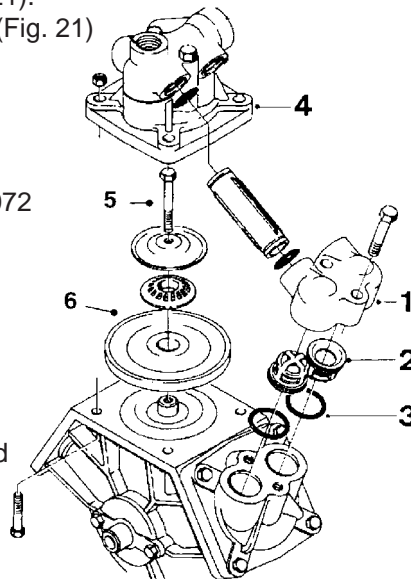

Fig.21
- Remove valve covers **(1)** (Fig. 21).
Before changing the valves **(2)** (Fig. 21) note the orientation of the valves so that they are replaced correctly.
- It is recommended to use new O-rings **(3)** (Fig. 21) part # 330072 when changing or checking the valves.
- Remove diaphragm covers **(4)** (Fig. 21) to gain access to the diaphragms.
- Remove the diaphragm bolt **(5)** (Fig. 21) after having dismantled the valve cover as indicated above. The diaphragm **(6)** (Fig. 21) may now be changed.